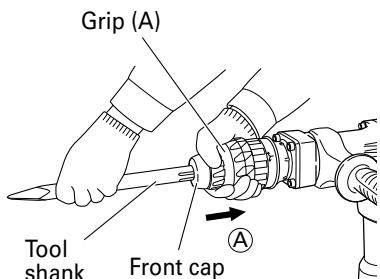

Fig. 2
- (1) Clean the shank portion of the tool.
- (2) As shown in Fig. 2, pull grip (A) in the direction of (Ⓐ), and insert the tool into a hole of the front cap.
- (2) Release grip (B) and turn the tool, and make sure that it is locked completely.
- (3) Removing Tool
As shown in Fig. 2, pull grip (A), and pull out the tool.